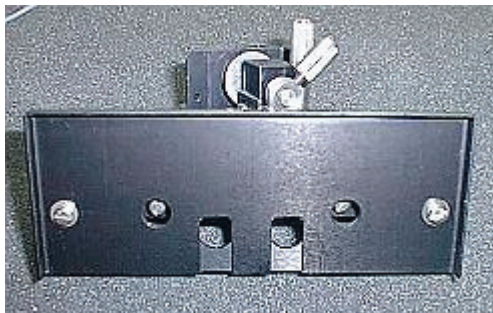

Figure 36 Adjustment screws
9. Using a flat screwdriver, turn the two adjustment screws shown in Figure 36, to optimize the signal.